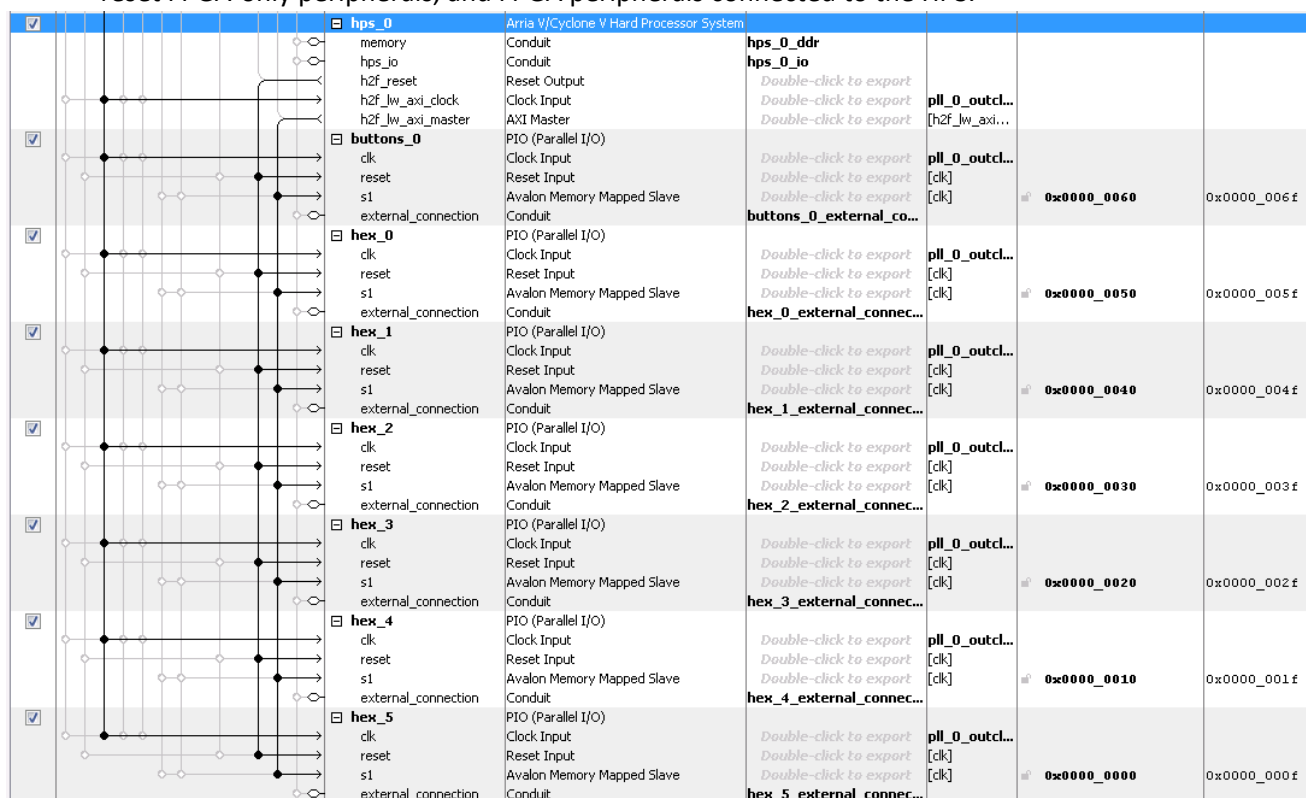

Figure 8-14. Adding Buttons and 7-segment Displays to the Lightweight HPS-to-FPGA Bridge
29. Connect the system as shown in Figure 8-14 below. Notice that we use "hps_0.h2f_reset" as the reset signal for the components connected to the HPS. This is a design choice so we can separately reset FPGA-only peripherals, and FPGA peripherals connected to the HPS.